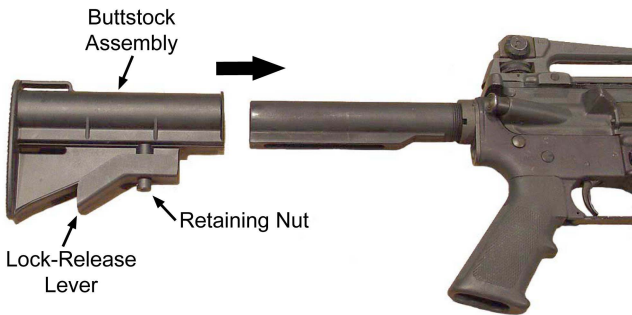

Figure 3-19. Reinstalling Buttstock Assembly
- (1) Grasp the lock release lever in the area of the retaining nut.
- (2) Pull to reinstall the buttstock assembly onto the lower receiver extension. Refer to Figure 3-19.